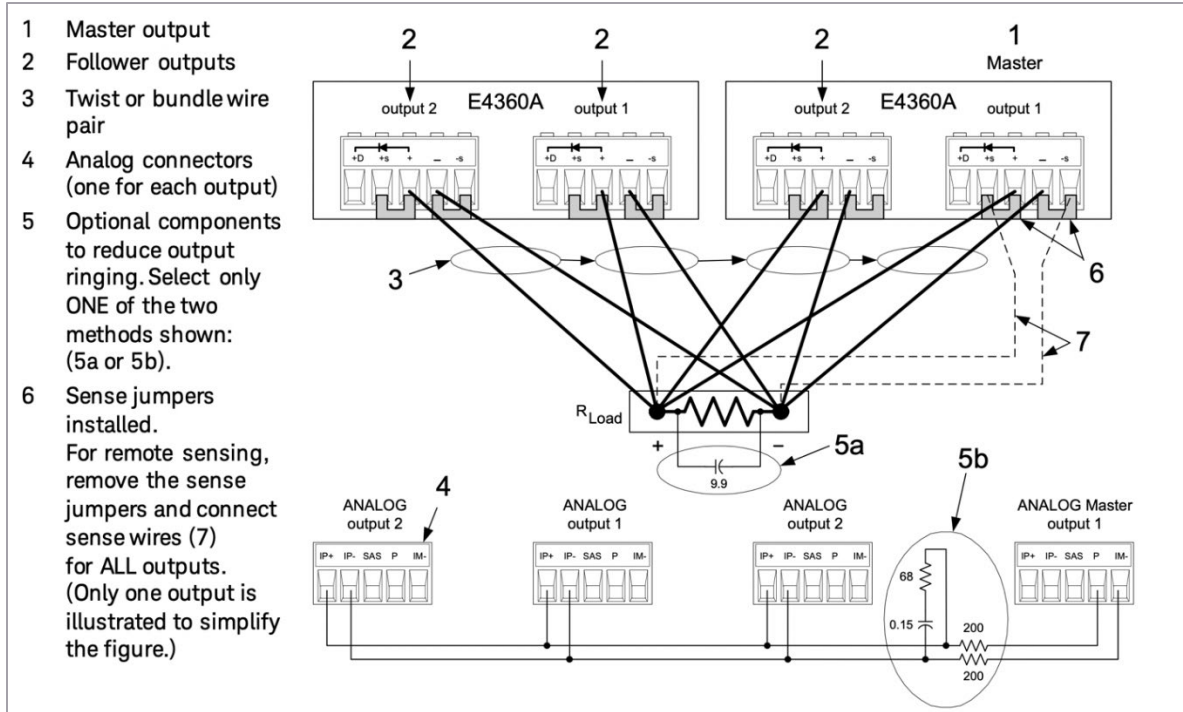

Figure 10. E430A Auto-Parallel connections.
**NOTE: For auto-paralleling in SAS and table mode, the connections remain the same as Figure 10, but the additional circuits, 5a and 5b, are omitted**